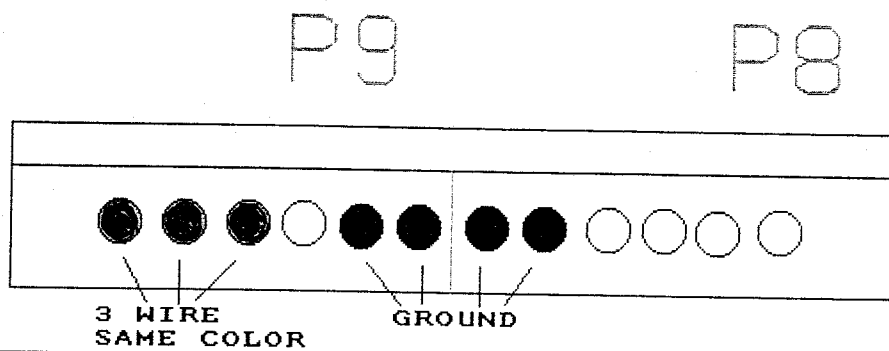

Figure 7, Installing the Power Supply
**Step 5. Install the power supply in the case.** Connect power supply connectors P8 and P9 to the corresponding connectors on the Motherboard. (If there are no clearly marked P8 and P9 cables on the power supply, look for two six-wire connectors. On P9, the first two wires will be the same color, usually black, and the last three wires will be the same color, usually red. On P8, the last two wires will be the same color as the first two wires on P9, these are the ground wires.) Connect P9 with the last three wires towards the front of the case. Connect P8 so the two ground wires are adjacent to the P9's two ground wires. (See Figure 7, Installing the Power Supply.)